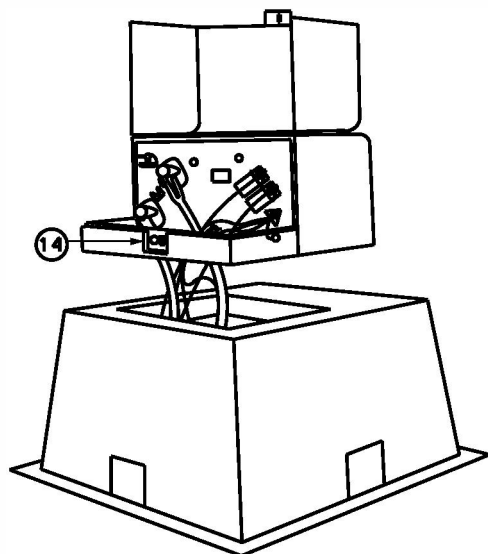

FIGURE 1
2. WHEN GROUNDING PRIMARY CABLE AS SHOWN IN FIG. 1. LEAVE SUFFICIENT SLACK (4 FT MIN.) OF CONCENTRIC NEUTRAL TO PERMIT OPERATION OF ELBOW TERMINATORS.
3. INSTALL FAULT INDICATOR (WQ) ON OUTGOING CABLE ELBOW.
- a. AT THE OPEN POINT OF A LOOP, INSTALL (2) ELBOW ARRESTERS (9718-8005) AND (1) DOUBLE FEEDTHROUGH PARKING BUSHING (9718-8124) AS SHOWN IN DETAIL 'A'.
- b. IN THE CASE OF A RADIAL TAP FROM AN OVERHEAD FEEDER, INSTALL (1) ELBOW ARRESTER ON H1B BUSHING AT THE LAST TRANSFORMER.
- c. AT THE TRANSFORMER ADJACENT TO THE OPEN POINT OF A LOOP, INSTALL (1) WELL INSERT ARRESTER (9718-8007) AS SHOWN IN DETAIL B. THE WELL INSERT ARRESTER IS TO BE INSTALLED WITH A TORQUE TOOL (9714-2090).